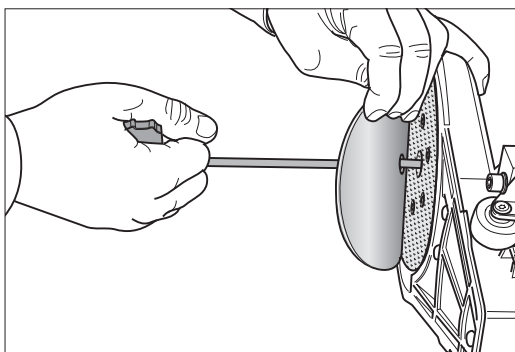

Fig. 9 ... and mount the new disc in centered position and press down.
- 5 Place a new Velcro sanding disc on the sanding plate. The Velcro sanding disc must be seated in centered position on the sanding plate. A drilled hole in the center of the sanding disc and the universal spanner make this step easier (Fig. 9).